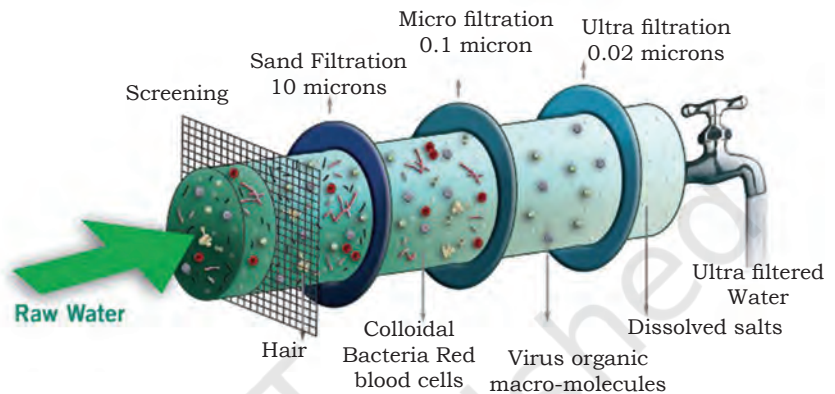

Fig. 4.29: Process of purification in a UF purifier
Ultra Filter (UF) water purifiers use membranes similar to an RO membrane but with larger pores. They remove all the germs and bacteria from water but do not remove dissolved salts or solids. They are suitable in homes where the water supplied is not very hard and has less dissolved salts. The process of purification in a UF purifier is shown in Fig. 4.29.